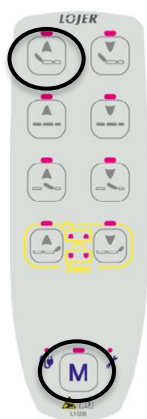

Figure 2.1.2 Saving a memory location
To set the memory location, move the device to the desired position and press the memory button (8) and the back button (1) simultaneously for 5 seconds (Figure 2.1.2). All the lights blink and finally two beep sounds. Memory function is only with model 4050X F.